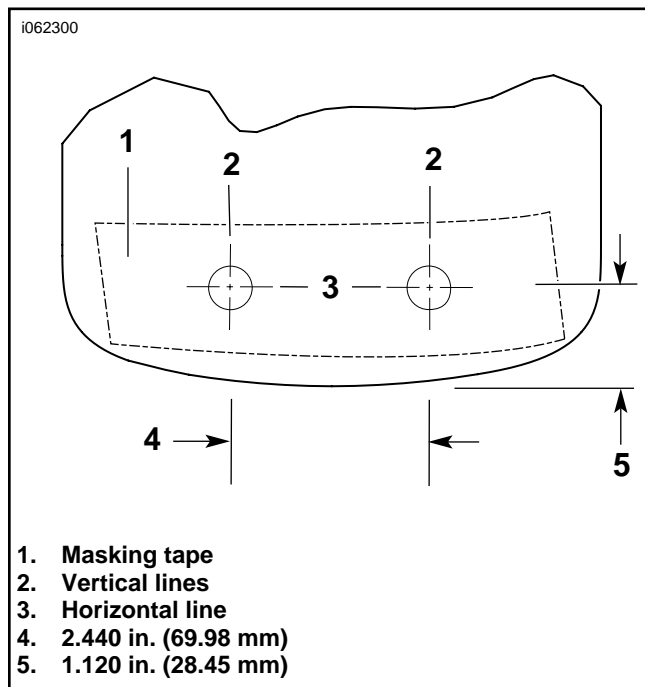

Figure 2. Fender Tip Stud Hole Locations
1. See Figure 2. Carefully hold fender tip in position on the front of the fender and mark masking tape (1) with the fender tip mounting studs.
2. Mark a vertical line (2) in the center of each mark.
3. Use calipers to measure (5) from bottom edge of the fender. Mark a horizontal line (3) across each stud hole location.